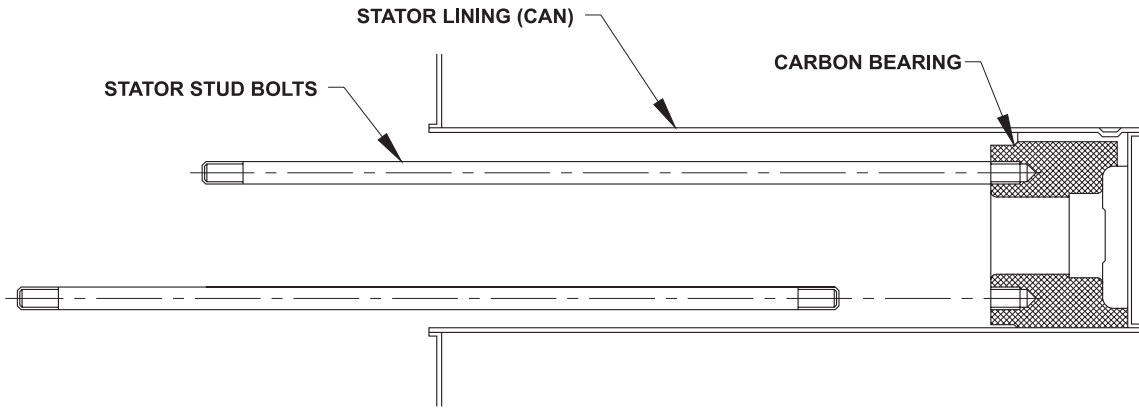

Figure 11
2. Bend down the tab washer (931.1), unscrew the impeller screw (906) and take off the first impeller.
3. Remove the impeller key from the shaft, remove the stage casing (108) and take out the second impeller.
5. Loosen the 4 hexagon nuts (920.2) and completely remove the motor from the pump casing (101). Take off the front bearing assembly (381).
6. Remove the rear carbon bearing (545.2) with the help of the stator stud bolts (900.4); see Figure 11. To prevent bearing and stator lining damage, pull the bearing gently, pushing the bearing back if necessary to wipe dirt particles from the stator lining. Lightly oil the stator lining to facilitate removal of the carbon bearing.
9. Visually check stator lining "CAN" (816) for scratches, gouges, and dents. If the stator lining is damaged, return it to the factory or qualified motor repair shop for replacement.
To install rear bearing, first clean and lightly oil the stator lining. Install the bearing using the stator stud bolts (CAM 900.4, CNF 900.3) per Figure 11. Gently push bearing in to the can, lining up the notch in the bearing with the notch in the can. Careful do not to bend the stud bolts or twist the bearing. The remaining steps in reassembling the pump should be performed in the reverse order of disassembly. When reassembling the pump, use new gaskets. The impeller screw must be secured with a tab washer (931.1) in good condition. Torque bolts (914, 920.3) on CNF and nuts (920.1/2) on CAM to 40 ft-lbs. After assembly is complete, rotate the shaft by hand through pump inlet opening to make sure the rotor spins freely and recheck axial shaft play. Pressure test the pump for leaks before putting it back into service.